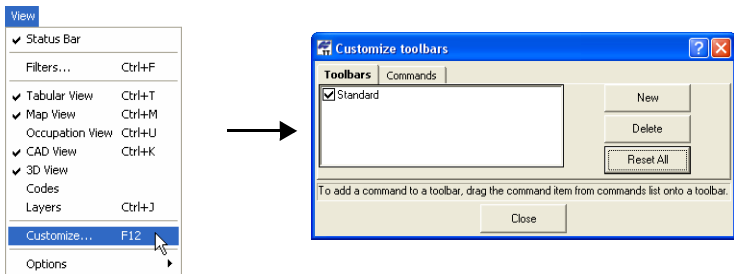

Figure 1-24. Customize Toolbars
1. To customize toolbar options, click **View ► Customize**. The *Toolbars* tab in the *Customize toolbars* dialog box displays all available toolbars for activating or inactivating, and adds or deletes toolbars. (Figure 1-24).